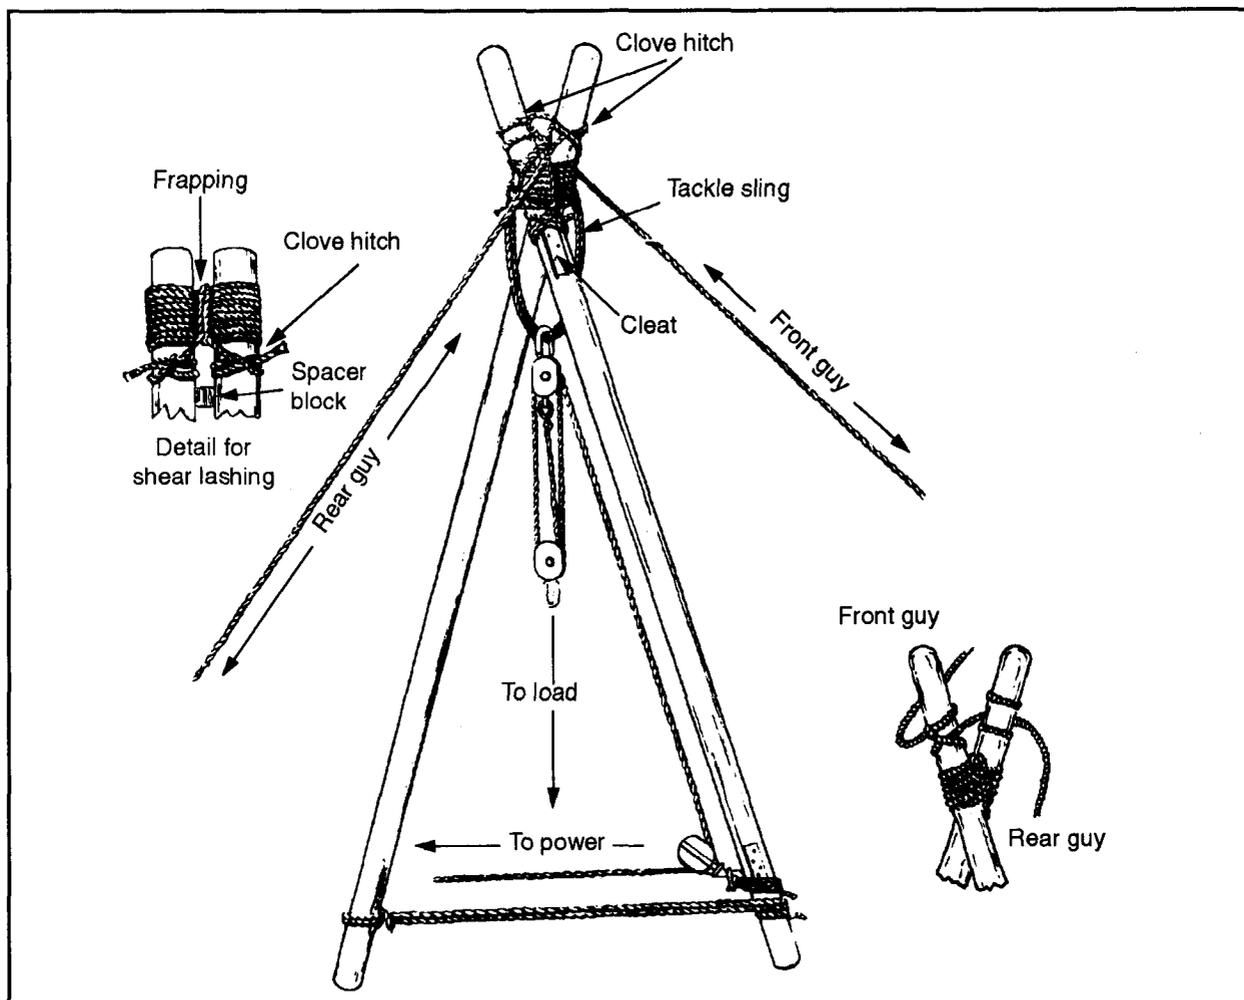

Figure 5-6. Lashing for shears
- Place a large block under the tops of the legs just below the point of lashing and insert a small spacer block between the tops at the same point (see *Figure 5-6*). The separation between
- With sufficient 1-inch rope for 14 turns around both legs, make a clove hitch around one spar and take eight turns around both legs above the clove hitch (see *Figure 5-6*). Wrap the turns tightly so that the lashing is smooth and without kinks.